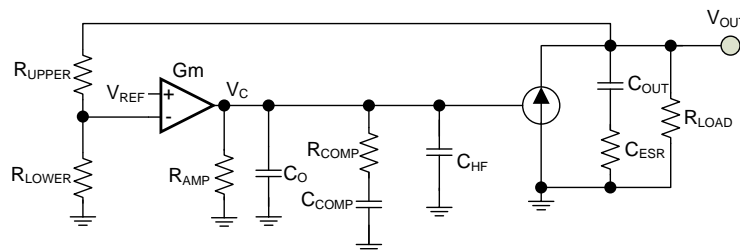

Figure 35. Transconductance Amplifier
A type II compensator using a transconductance error amplifier (EA), G_m , is shown in Figure 35. The dominant pole of the EA open-loop gain is set by the EA output resistance, R_{AMP} , and effective bandwidth-limiting capacitance, C_O , as follows: